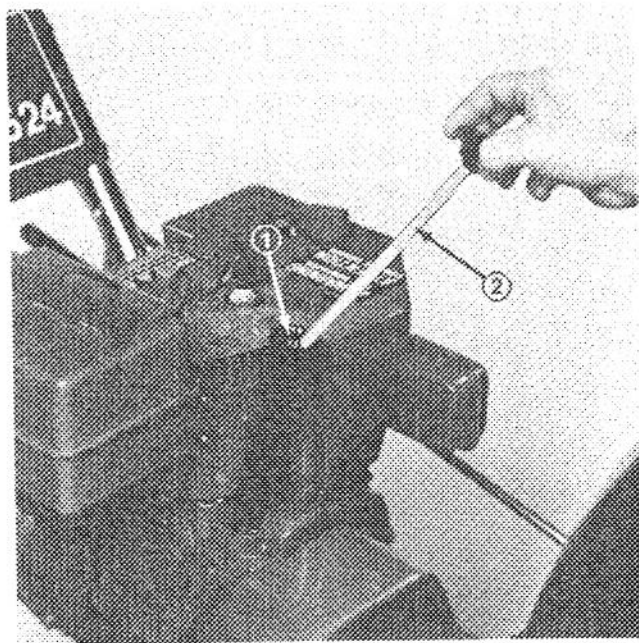

Figure 14
3. Remove dipstick from crankcase (Fig. 14).
4. Slowly, pour 21 ounces (0.621 l) of SAE 5W30 or SAE 10 oil into the filler hole (Fig. 14). The engine uses only high-quality detergent oil having the American Petroleum Institute – API – “service classification” SC, SD or SE.